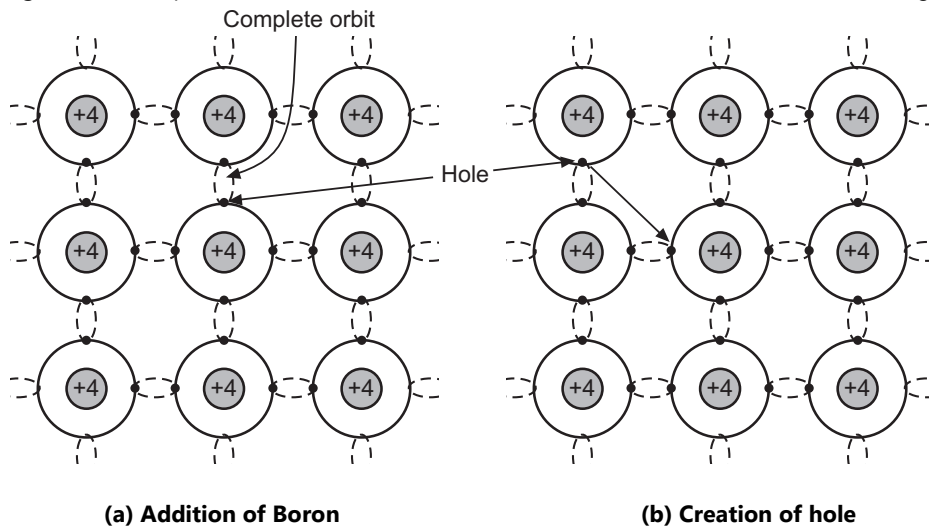

Fig. 1.7 : P-type semiconductor
- Consider the structure of a P-type semiconductor as shown in Fig. 1.7 (a).
1. A vacancy is created in the adjacent covalent bond from where the electron had jumped. This vacancy has a positive charge associated with it, hence, it is a *hole* as shown in Fig. 1.7 (b).